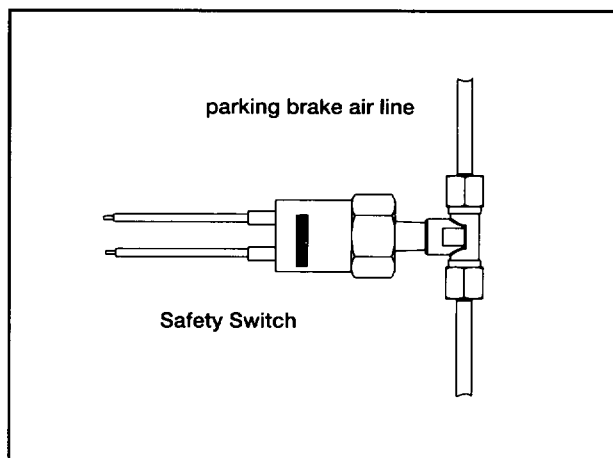

Figure 4
2. Using Teflon® tape, connect the Air Brake Safety Switch (P/N 022974) to the T-fitting as shown in Figure 4.